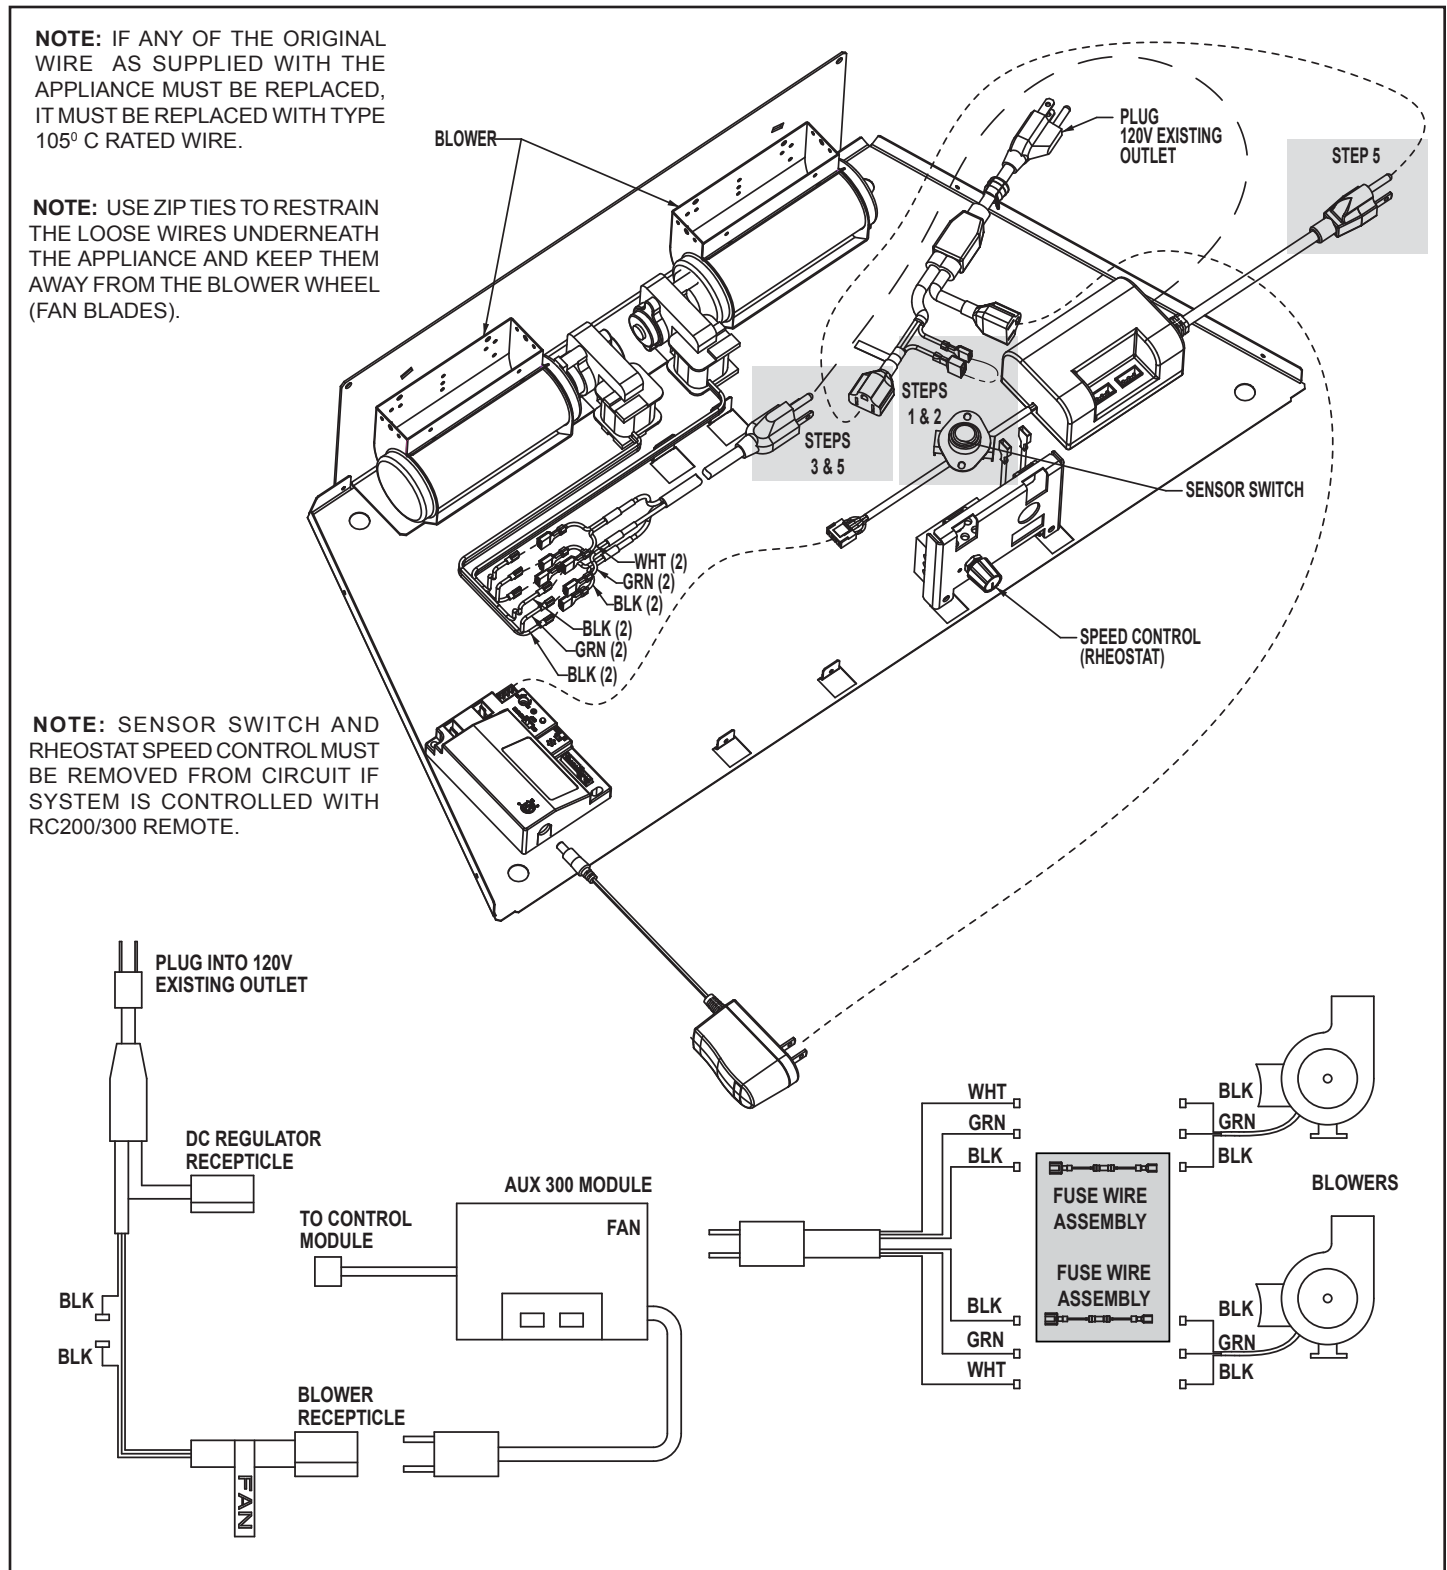

Figure 8. Fan Wiring Diagram - Metal Insert with RC200/RC300 Remote
This appliance may be used with an RC200 or RC300 remote control. See Figure 8.
4. Install fuse wire assembly in series between the black lead wires of the fan cord and black lead wire on each blower. See Figure 8.